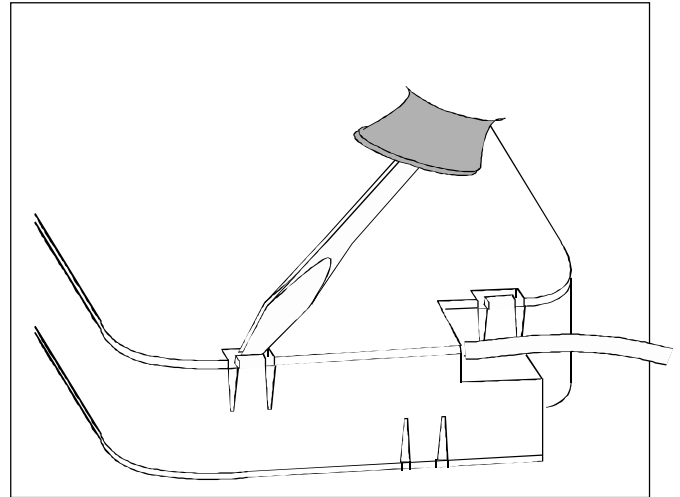

Figure 11
11.2 Use a flat-blade screwdriver to twist out the tabs that hold the cover in place and remove the cover from the module (Figure 11).